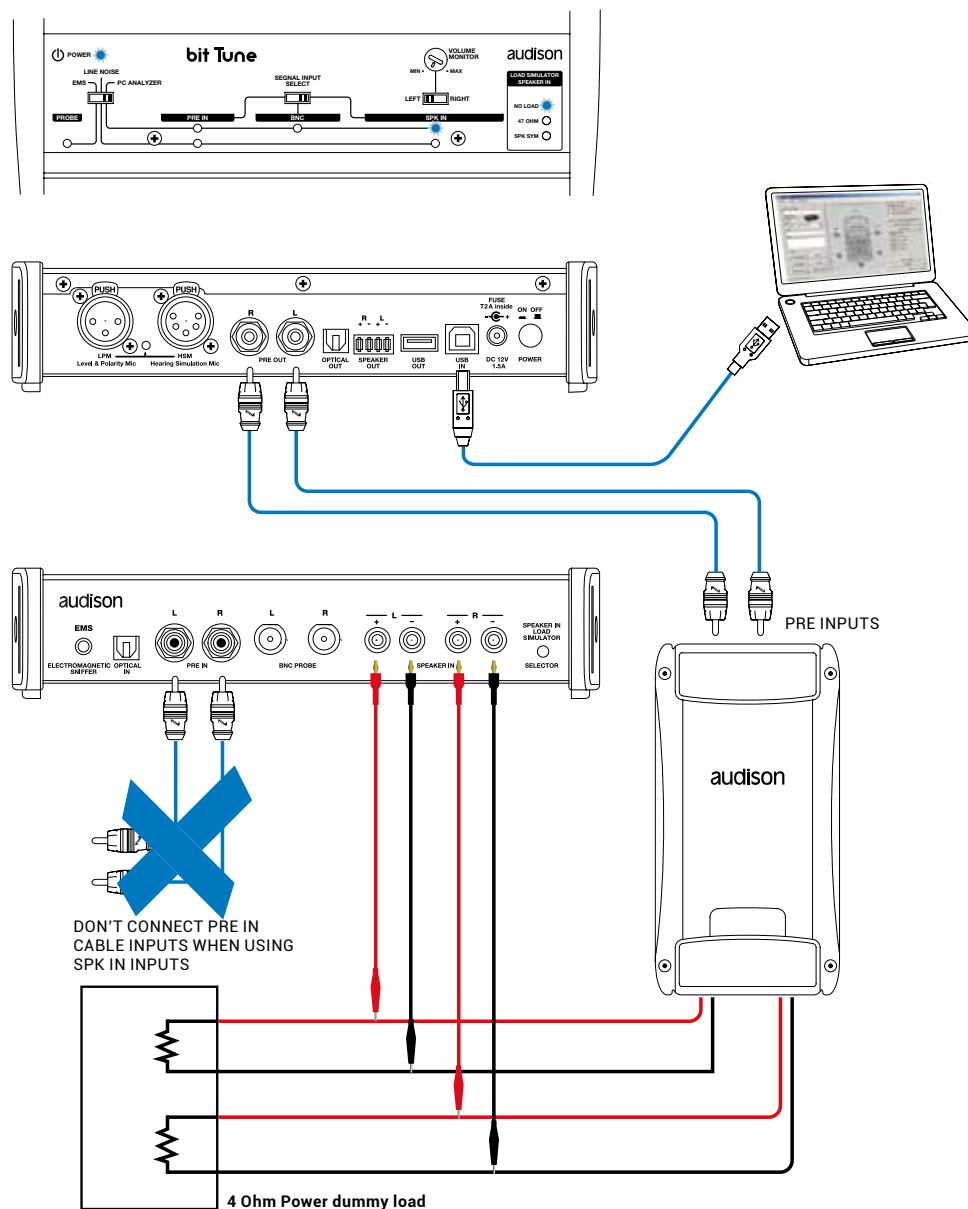

Fig 1.
2. Connect the SPK IN LEFT and RIGHT inputs of the bit Tune to the power outputs using the (supplied) connection cables (see fig. 1) and turn on the amplifier.